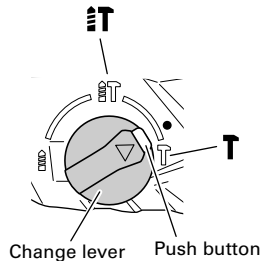

Fig. 12
(1) Mount the bull point or cold chisel.
(2) Press the push button and set the change lever to middle of **T mark and **T** mark (Fig. 12).**